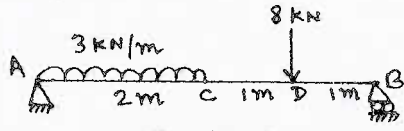

Fig.Q2(a)
- 2 a. Find the slope at A. and deflection at C. in the beam shown in Fig.Q2(a). by moment area method. Take EI as constant.